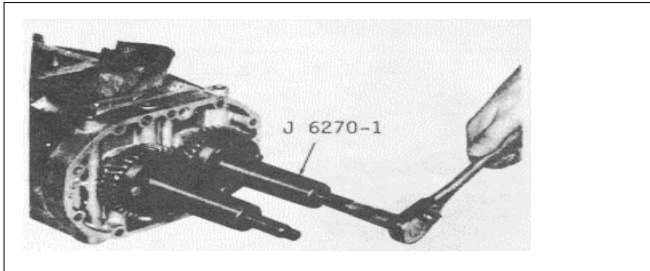

Fig. 2
- (1) Place a clean folded cloth between the rotors, then remove the lock bolts and thick washers securing the timing gears to the blower rotor shafts.
- (2) Remove the timing gears with pullers J 6270-1 (Fig.2).Both gears must be pulled at the same time as follows:
- (b) Turn the two puller screws uniformly clockwise and withdraw the gears from the rotor shafts as shown in Fig.2.
- (3) Remove the shims from the rotor shafts, after the gears have been removed, and note the number and thickness of shims on each rotor shaft to ensure identical replacement when reassembling the blower.